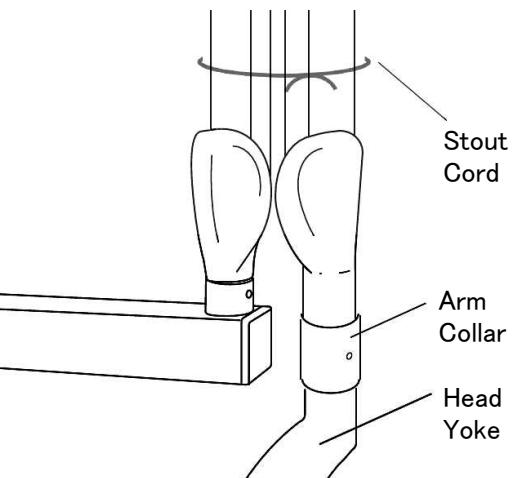

Fig. 1
2. Close the balance arm and secure it with a stout cord. The balance arm is spring loaded and it can pop out and cause injury when the x-ray head is removed. (Fig. 1)